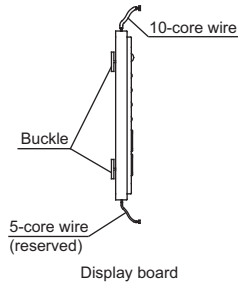

Fig. 21 —LED Display Panel
1. The display panel has buckles on the bottom that are used to secure it to the control box. See Fig. 21.